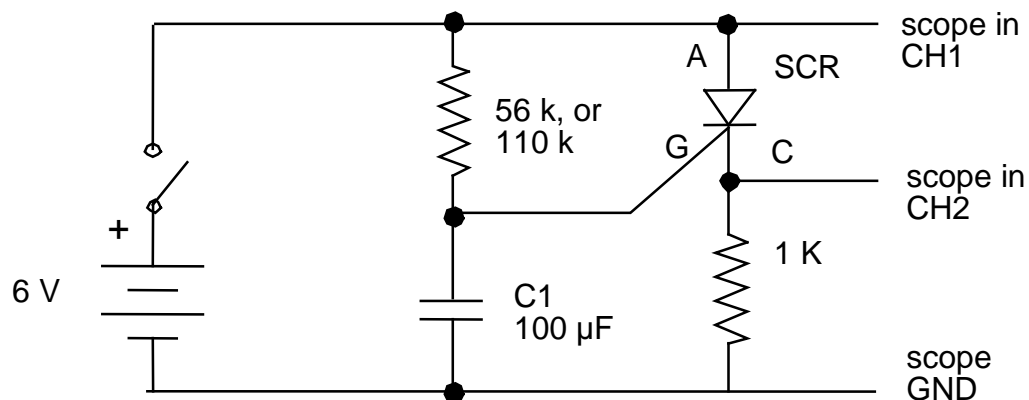

Figure 3-8 RC Timer
} The circuit in Figure 3-8 switches on a voltage across the load after a delay. The SCR switches on when the gate voltage (G) exceeds the cathode voltage (C). The gate voltage is developed across the capacitor C_1 by the R-C combination.